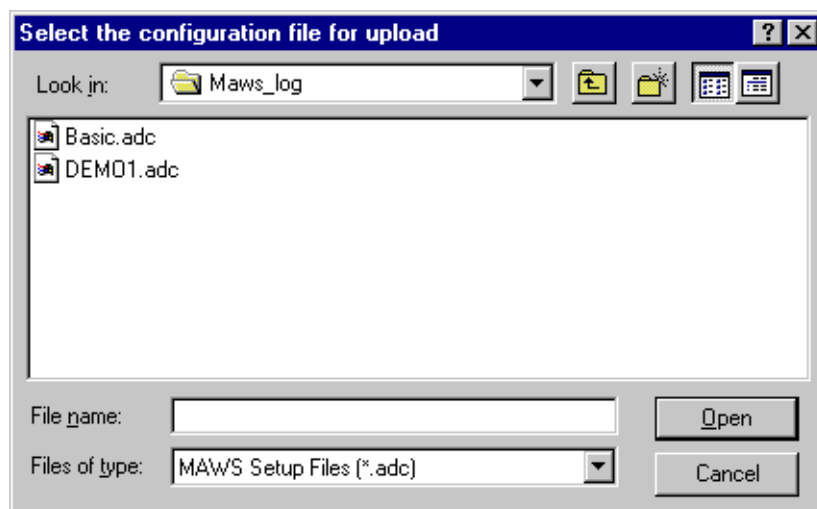

Figure 120 Selecting an Upload Configuration File
2. The **Select the configuration file for upload** window appears, see Figure 120 on page 137. Select the appropriate setup file and click **Open**.